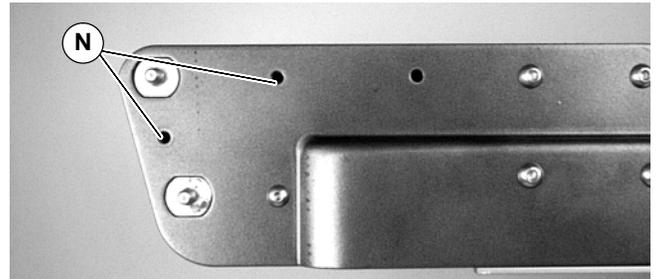

Figure 12
2. Remove and discard screws located in holes (N of Figure 12) on each side of conveyor.